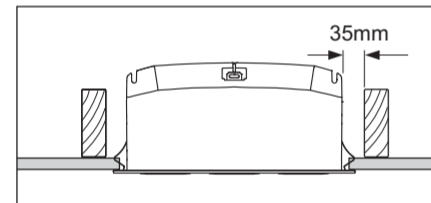

Fig. 2c: Minimum clearances for installation
This appliance must be mounted so that the lowest point is at least 2.3 m above the floor. The Tastic body and ducted blower is designed to fit a ceiling cavity or between – floor space with a minimum height of 230 mm. The Tastic may be installed between joists using the spring clips (Fig. 2c). Ensure that the outlet of the Tastic is directed towards the outer wall. If the desired orientation of the Tastic unit directs the ducting across ceiling joists ensure that the closest ceiling joist is not within 200 mm of the Tastic outlet.
- Figure 2c**
The Tastic may be installed between joists using the spring clips, clearances for the two vertical sides must be maintained as per Fig. 2c.